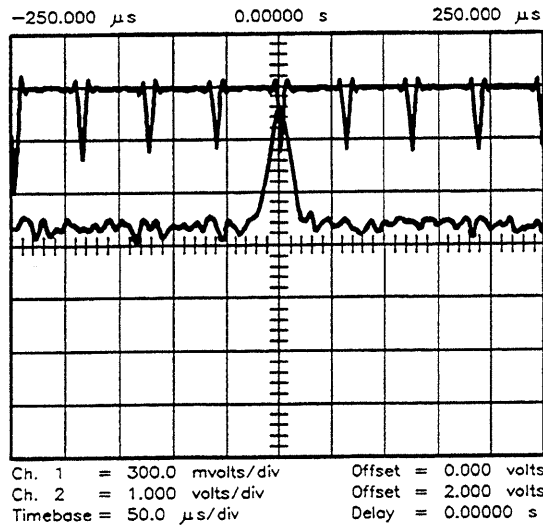

Figure 2-3. Video Signal on the Oscilloscope
5. Tune the spectrum analyzer center frequency to find and center the video signal on the oscilloscope (see Figure 2-3). Align the video input with the trigger output at center screen.